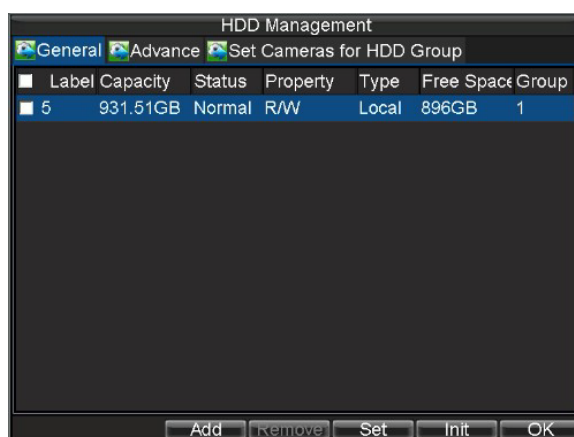

Figure1. HDD Management Menu
1. Click *Menu* > *Settings* > *Camera* to enter the Camera Settings menu, shown in Figure 1.
1. Click Menu > HDD to enter the HDD Management menu, shown in Figure 1.